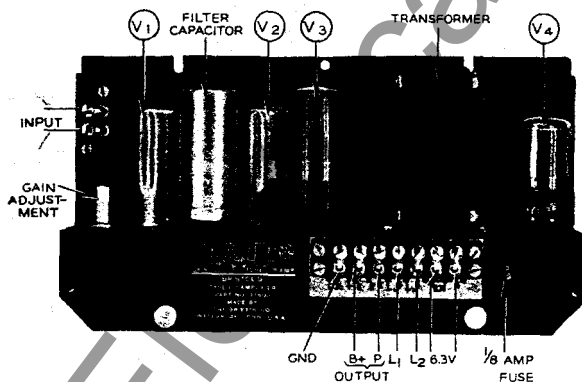

FIGURE 11. SERIES C-1 AMPLIFIER
**3. The Amplifier.** Plug Dynaprobe into terminal block and apply test prongs across the input terminals of the amplifier (see Figure 11). If amplifier is working properly, the balancing motor will move the pen up or downscale (depending upon phase). Reversing the two test prongs will cause the balancing motor to move the pen in the opposite direction. If the balancing motor does not move the pen up or downscale, disconnect the input leads to amplifier and check again with the test prongs across input terminals to amplifier. If the balancing motor still does not move the pen up or downscale, check fuse in amplifier, replace vacuum tubes and filter capacitor in amplifier. If this does not work, replace the amplifier.